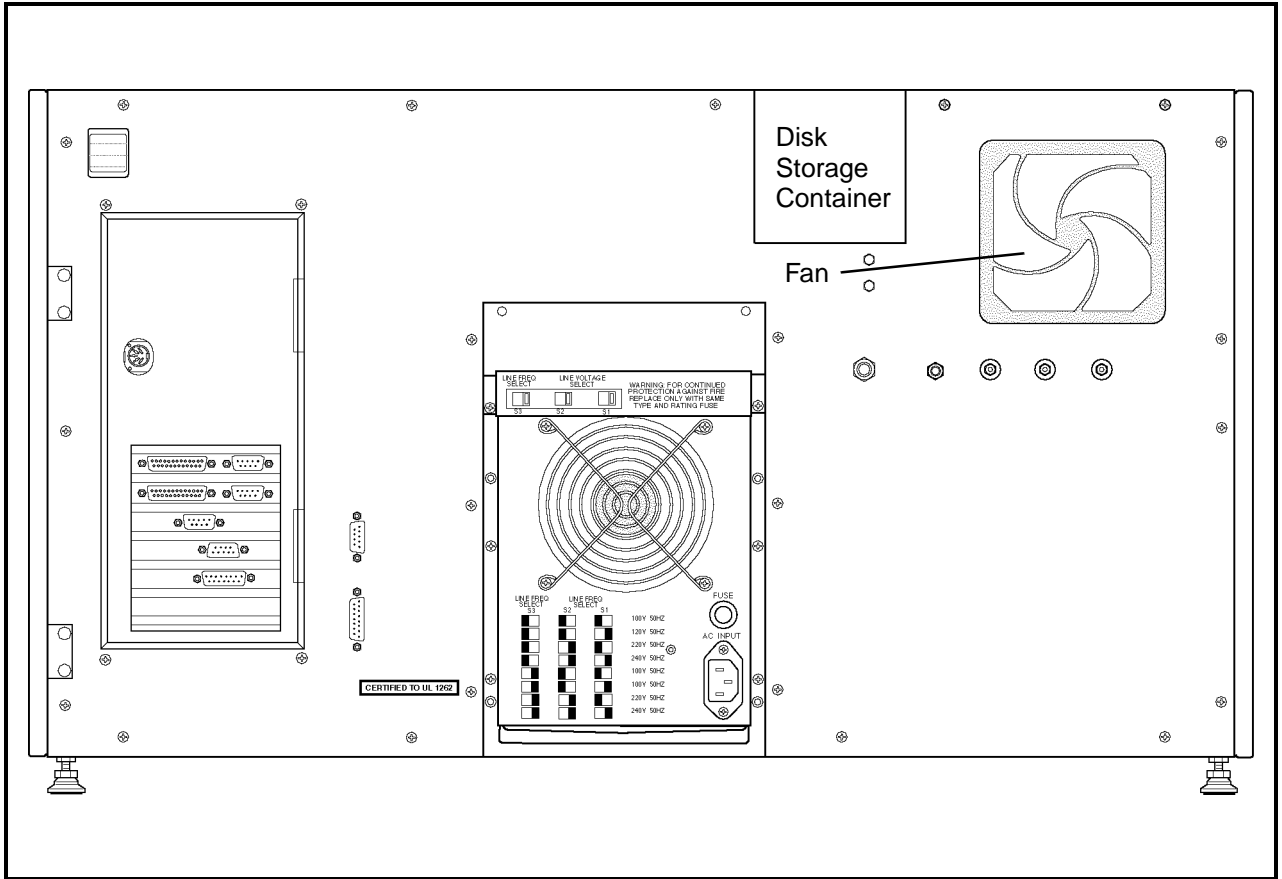

Figure 9.7: Analyzer Rear Panel
Figures 9.7 and 9.8 show the location of the rear panel fan and left side panel fan respectively.
3. Locate the Fan Filter on the rear panel. (Refer to Figure 9.7.)